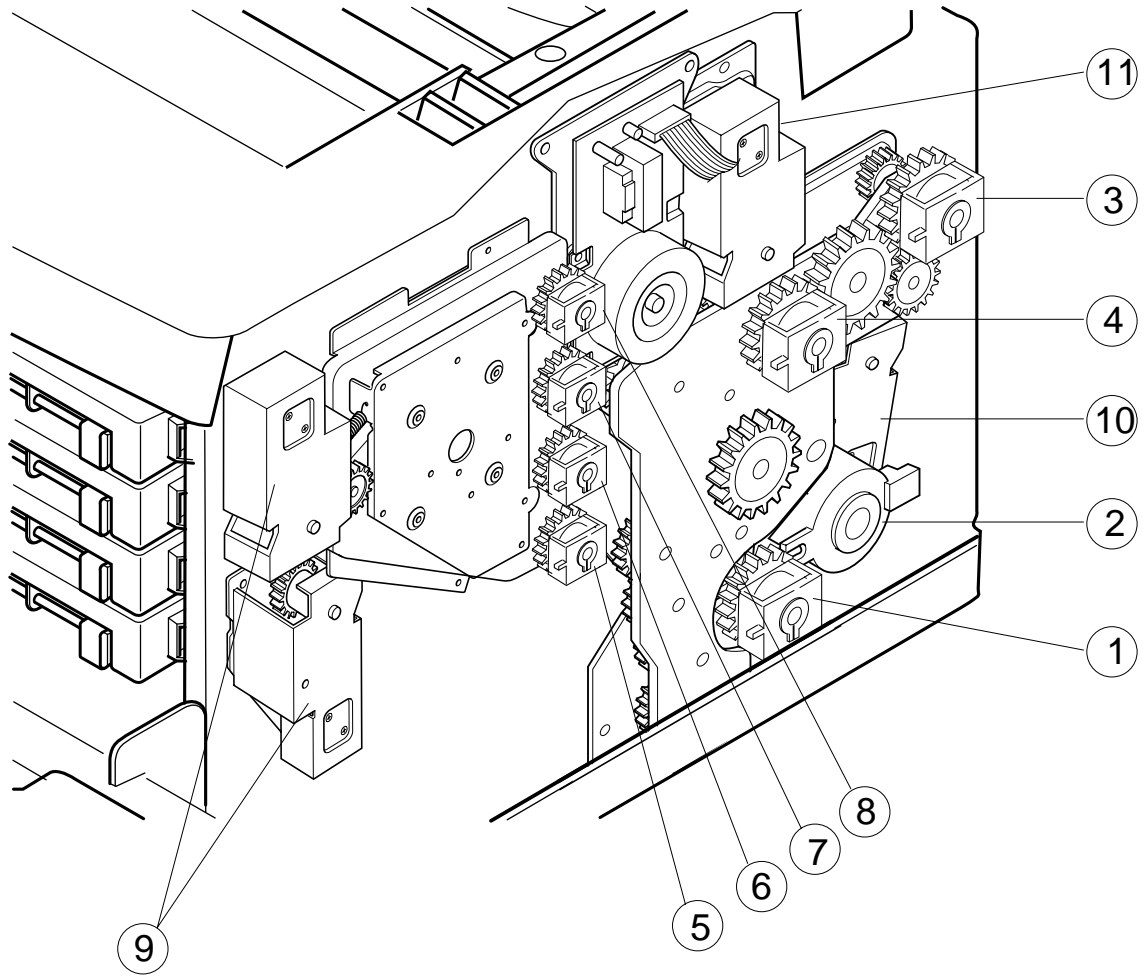

Fig.4-30
③. Clutch and Solenoid (Fig.4-30)